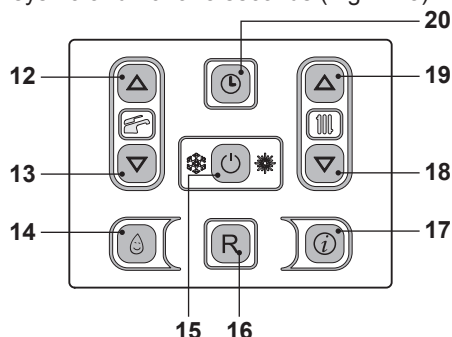

Fig. 2.13
Enter "programming mode" by holding down keys 19 and 20 for 5 seconds (Fig. 2.13).
Press keys 12 or 13 (Fig. 2.13) to select individual days 1, 2, 3, 4, 5, 6, 7, or if you want to select a group of days, hold down key 12 until groups (1-5) (1-6) (1-7) (6-7) are displayed (flashing), then confirm by pressing key 15.